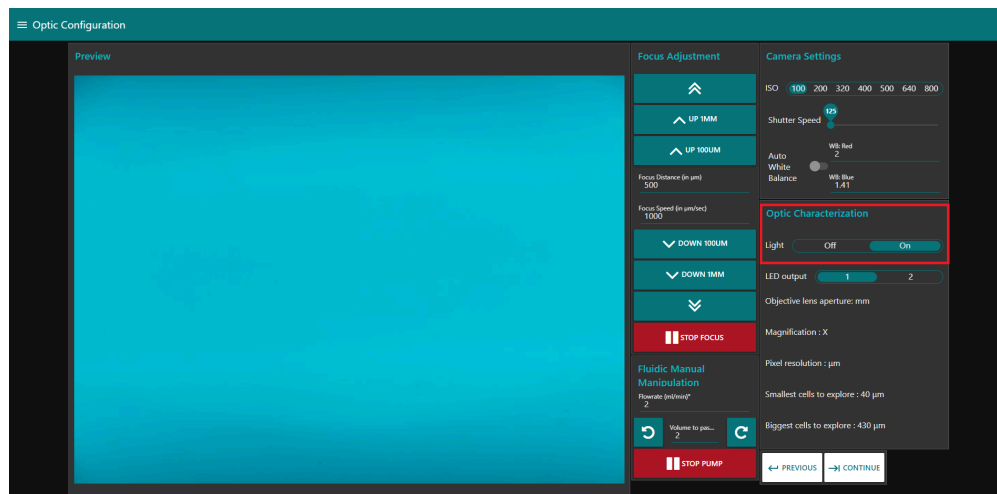

Figure 3: The red box highlights the location for turning on the LED. **You will need to do this every time you use your PlanktoScope.**
a) Under Optic Characterisation, **switch on the Light** by clicking 'On' (fig.3). You should see the Preview image turning from dark to light. *The Preview image could be any color so do not worry if yours show blue, red, green, etc. ; it will be adjusted later during the White Balance (WB) calibration.*